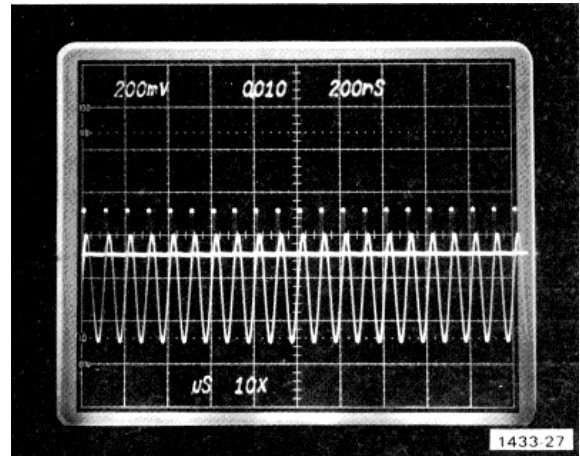

Fig. 5-8. Triggered pseudo gate display, compared to sine wave signal.
- f. Adjust the 7D15 A and B trigger level controls for a triggered pseudo gate display (one gate pulse for every positive-going slope of the sine wave). See Fig. 5-8 for a properly adjusted gate pulse.